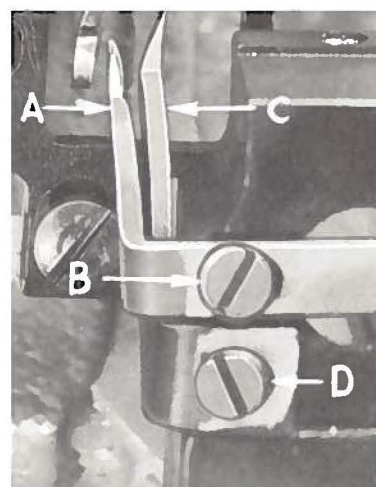

Fig. 5
Set rear needle guard (A, Fig. 5) as high as possible, without interfering with either lower looper or movement of lower knife holder; but still in position to deflect needle forward .002 - .004 inch. Screw
Assemble front needle guard (C, Fig. 5). When lower looper is springing needle off back guard, set front needle guard as close as possible to needle without touching. Screw (D) is used to adjust and set front needle guard. After this setting, make sure there is no interference between needle guard and main feed dog.